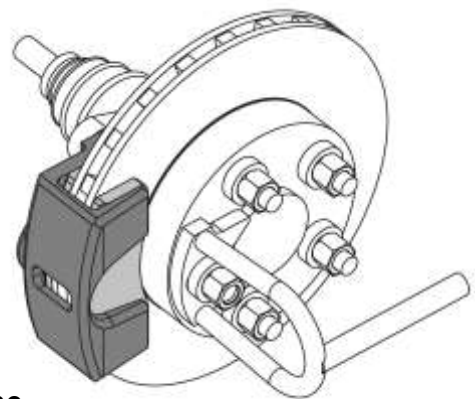

Fig. 62
13. Install the brake pads and brake calipers according to the repair manual, Fig. 62.